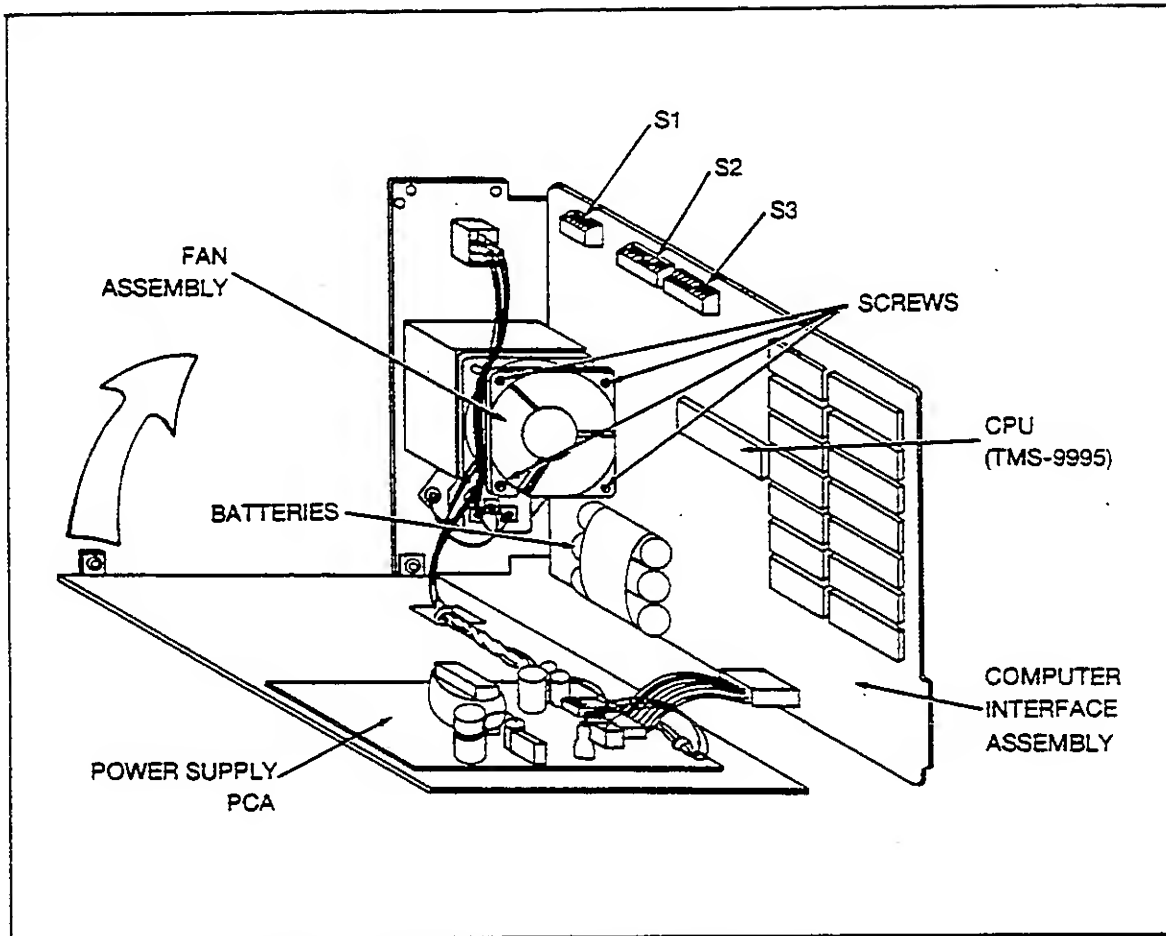

Figure 4-6. Computer Interface Module (Interior)
The Power Supply PCA is mounted on the Computer Interface Module (Figure 4-6).
The Computer Interface Assembly is mounted on the Computer Interface Module (see Figure 4-6). Use the following procedure to access the Computer Interface Assembly:
Refer to Section 9A for Scan/Alarm Option -201 fan assembly removal and installation instructions. To remove the fan assembly attached to the standard Computer Interface Assembly, (shown in Figure 4-6), perform the following procedure:
3. To detach the fan assembly (and the fan filter housing) from the front panel of the Computer Interface Module, remove the four screws (shown in Figure 4-6) which secure the fan assembly and filter housing to the panel.